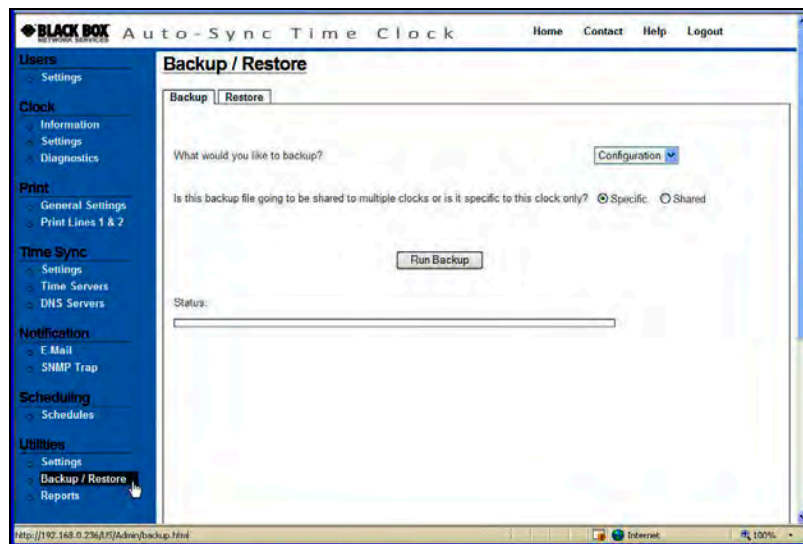

Figure 4-23. Backup Utility.
1. Click on the **Backup/Restore** link under Utilities, and the **Backup** tab screen will appear (see *Figure 4-23*).